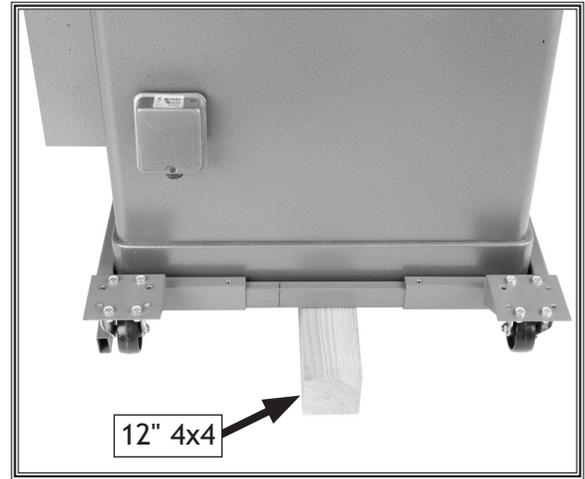

Figure 19. Fixed casters and rail placed around back of machine, which is raised up with a wood block.
10. Slide each of the corner brackets into the remaining rail and slide the assembly over the block and up against the machine, as shown in **Figure 19**.